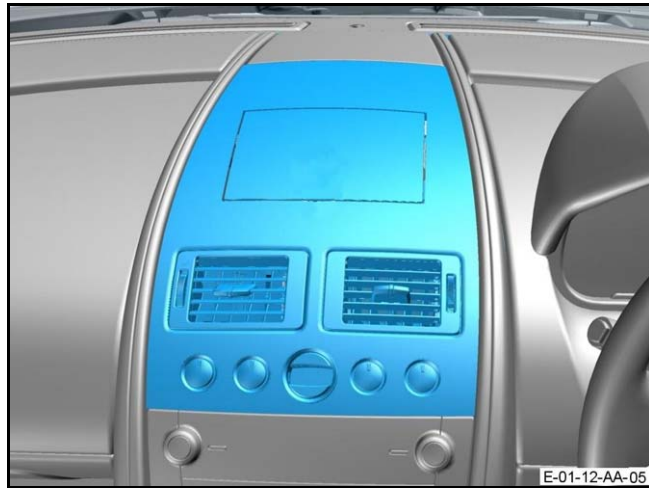

Figure 6
9. Put the panel into position (refer to Figure 6).